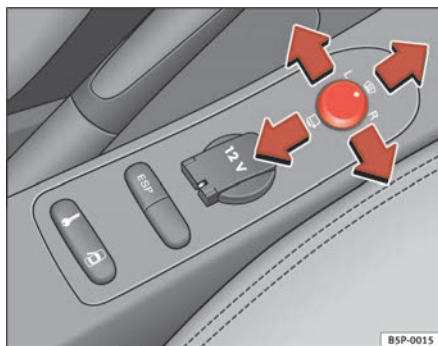

Fig. 90 Exterior mirror control
1. Turn knob ⇒ **fig. 90** to position **L (left exterior mirror)**.
- Turn the knob forwards to the central position ⇒ **fig. 90** **1** so that the heated rear view mirrors heat up and the heated windscreen* in the wiper blade rest area is operational ⇒ page 121.
- Turn the control ⇒ **fig. 90** to position **!** to fold in the exterior mirrors. You should always fold in the exterior mirrors if you are driving through an automatic car wash. This will help prevent damage.